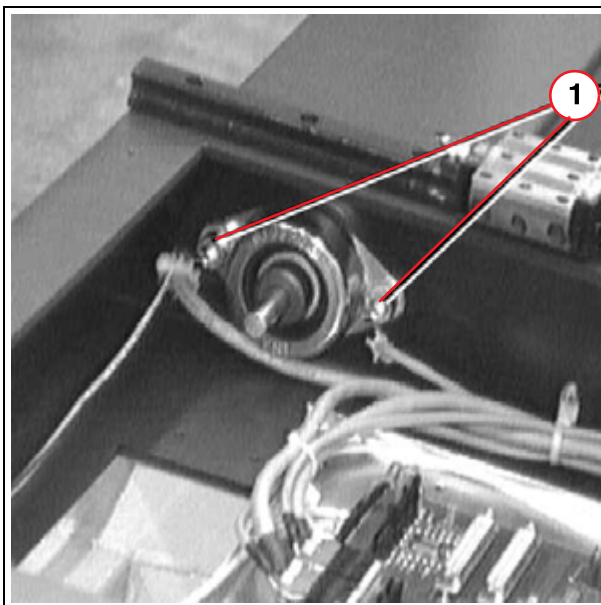

Fig. 26: Drive axle_A bearing
- Remove the drive shaft bearing to replace the cables ((Fig. 26 / p. 60)).